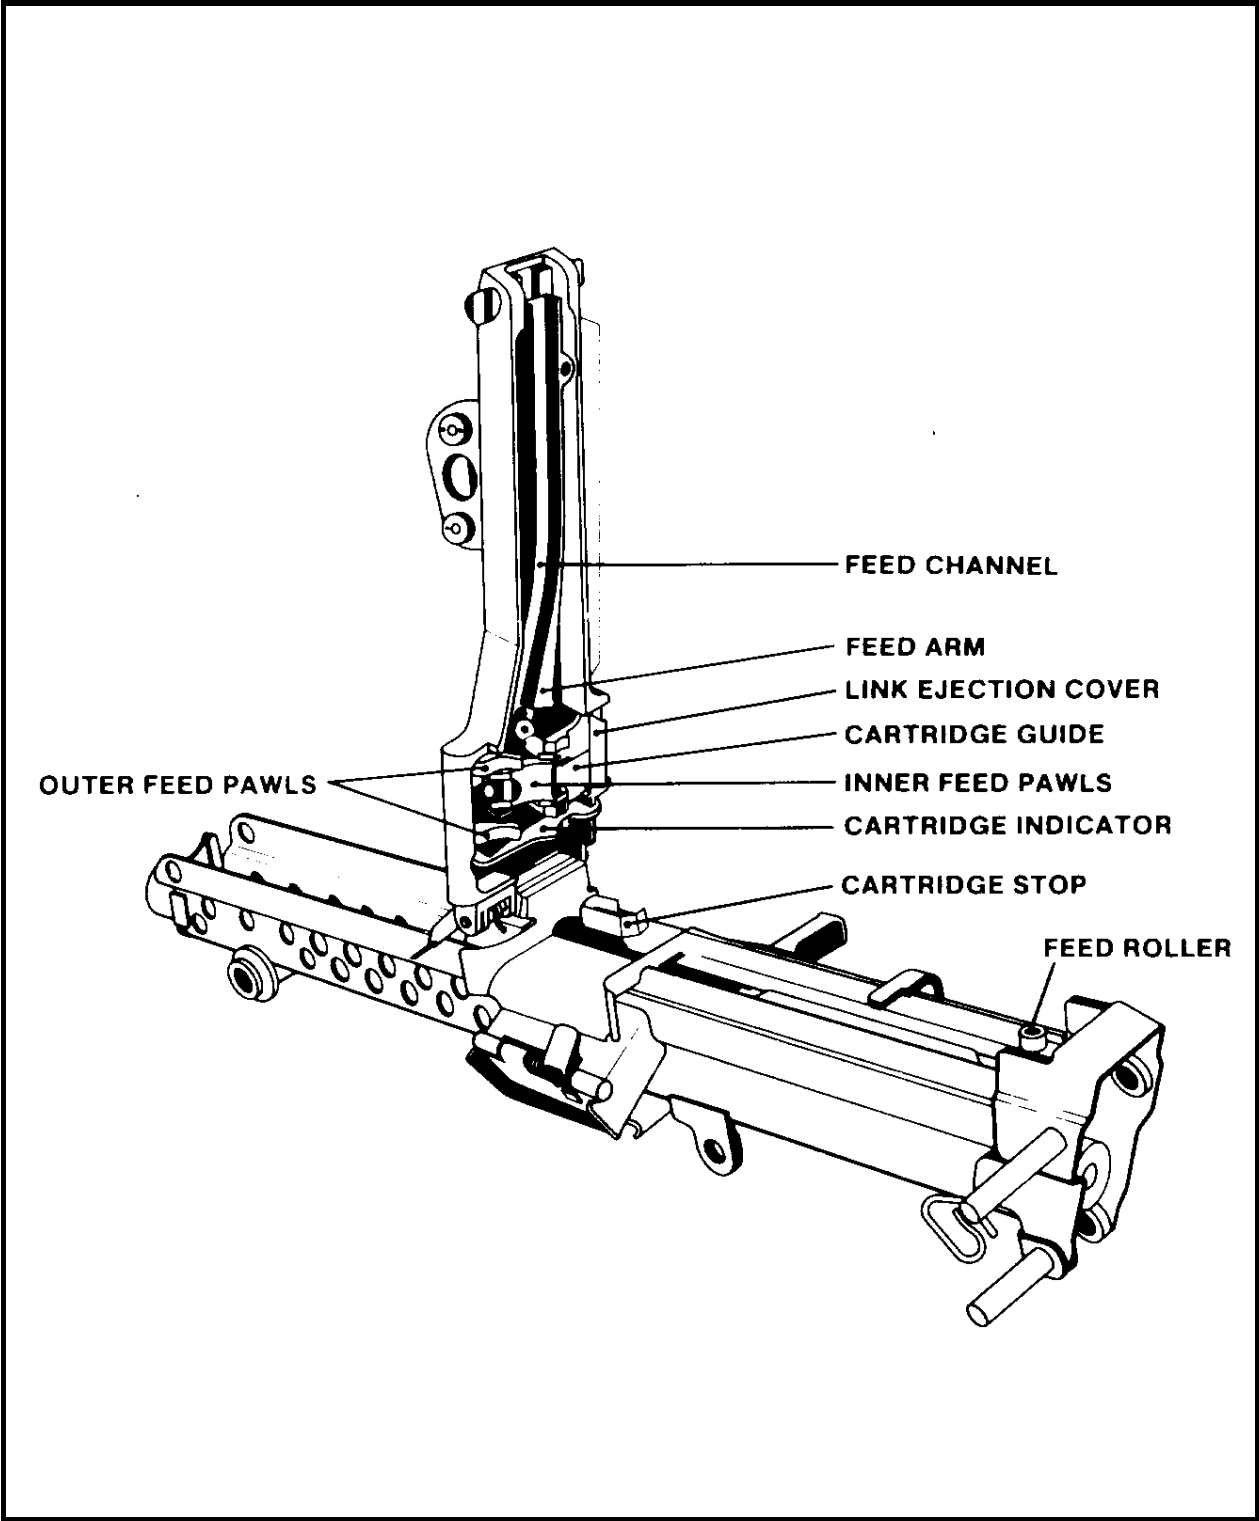

Figure 2-56 Feed Cover
- (1) The sear.
- (2) The tripping lever.
f. **Feed Cover** (Figure 2-56)
- (1) The inner and outer feed pawls.
- (2) Feed arm and feed channel.
- (3) Cartridge guide.